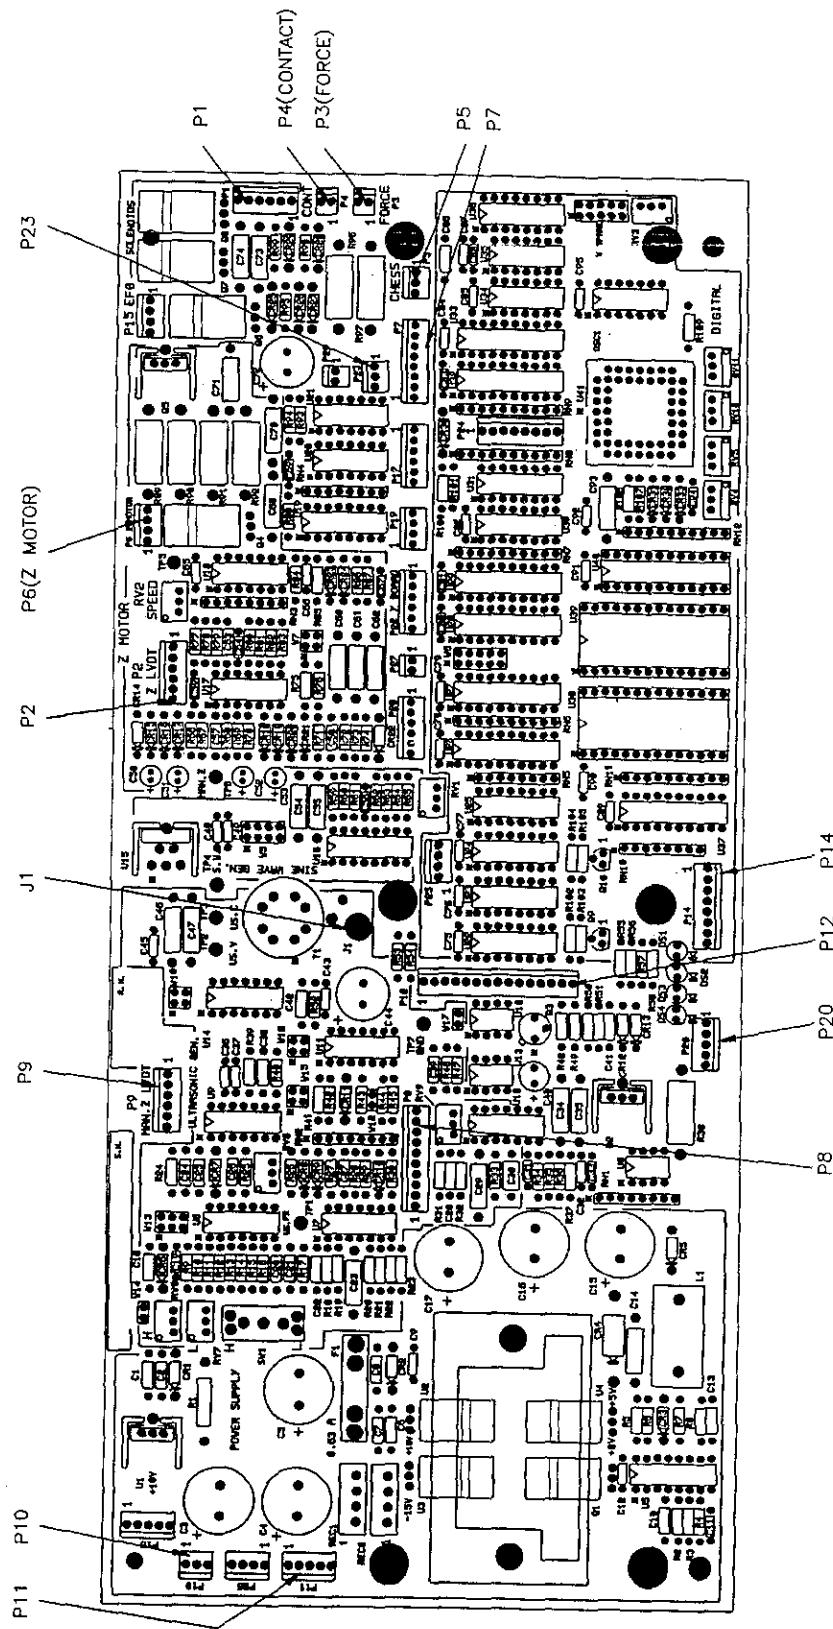

Figure 8-4 Logic Board Connection Points
Table 8-2 lists the connection points on the Logic Board for the 4123 and their functions. The physical location of each connector is shown in Figure 8-4.
- Step 5 Plug in all the cables (check against Table 8-2 and Figure 8-4 above).
- Step 2 Remove the back cover, and connect the oscilloscope (or multimeter) probe to pin TP4 (S.W.) and the ground to pin TP7 (GND) (see Figure 8-4). Check that you have a sharp, nondistorted sine wave on the oscilloscope of 18Vptp (or 6.37Vrms if using a multimeter).
- Step 1 Unplug the Transducer from the Logic Board (connection point J1, see Figure 8-4).